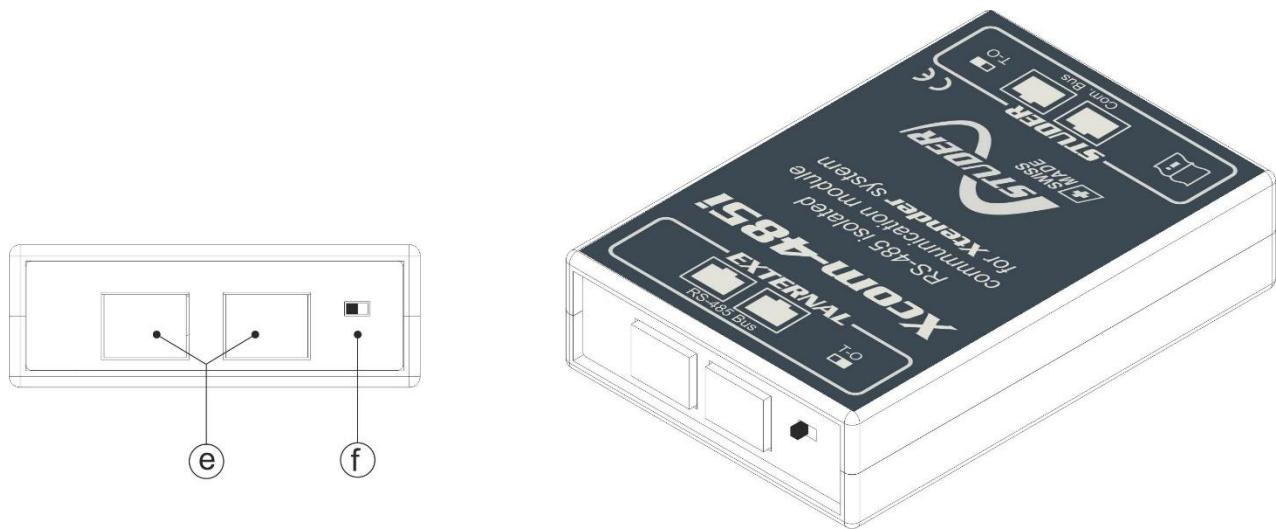

Figure 4: Back and isometric view of the Xcom-485i
(f)	<p>Switch for RS-485 termination</p> <p>This switch activates or deactivates the communication bus termination. The termination is by default activated. In Figure 4, the termination is activated (T). Place the switch to the correct side: if there is only one cable connected on port e put the switch in T (terminated) position. If there are two cables connected on port e (Xcom-485i connected to two other devices) place the switch in position O (open).</p>